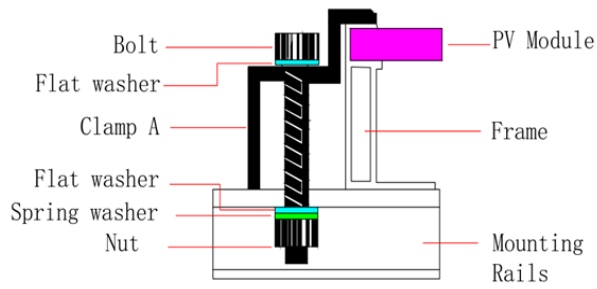
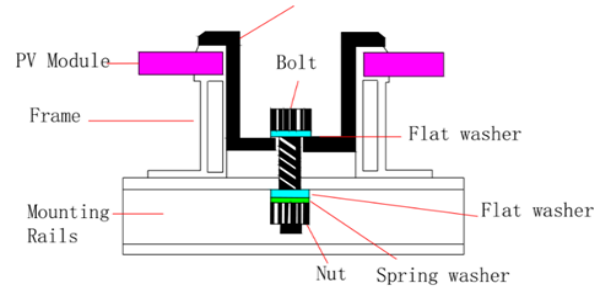

figure4
figure 5
- Clamp material should be anodized aluminum alloy or stainless steel. The mounting details are shown in the following *figures4* and *figures5*.